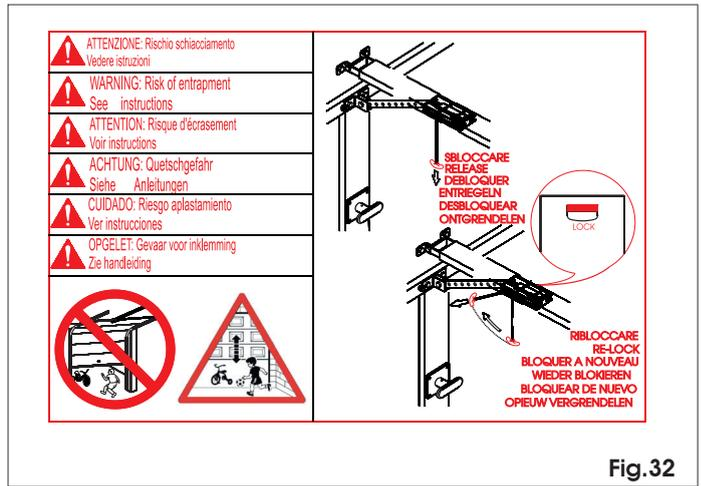

Fig.32
**After installation, make sure that no part of the door interferes with public spaces such as pavements and/or roads.** Check the status of the unit's inputs and make sure that all the safety devices are correctly connected (the relevant LEDs must be lighted). Run a few complete cycles to check if the automated system and the accessories connected to it are operating correctly, addressing special care to the safety devices and the anti-crushing device of the operator. Check if the automated system is able to detect an obstacle with a height of 50mm laid on the ground. Apply the stickers indicating the release manoeuvre near the automated system. Apply the danger signal sticker (Fig. 32), so that it is clearly visible, near to the door or near to the control device. Hand the customer the page entitled "User's guide", and describe how the system works, and the operator release and locking operations indicated in the guide.